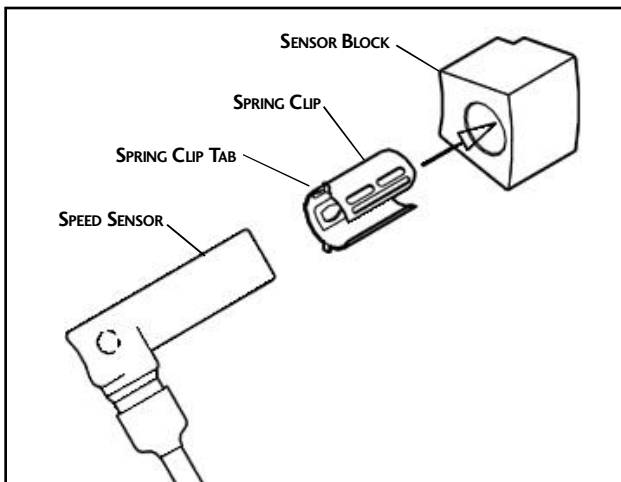

FIG. 7
7. Remove the fixture tool and let the sensor block cool. After cool down, install the sensor spring clip and sensor as illustrated in Fig. 7.